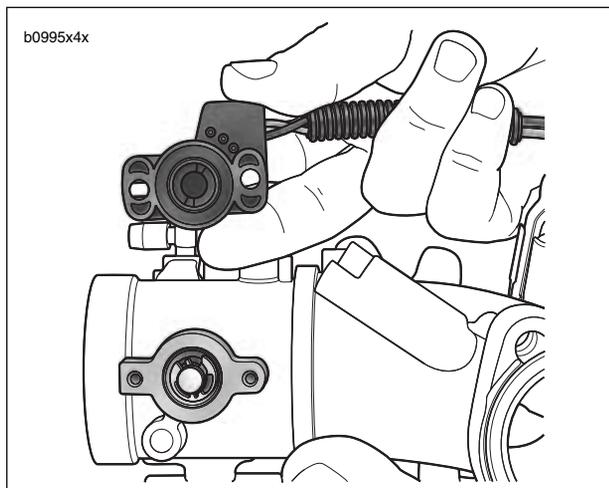

Figure 4-48. Throttle Position Sensor
3. See Figure 4-48. Remove two screws and washers to detach TP sensor.
1. See Figure 4-48. Apply LOCTITE THREADLOCKER 222 (purple) to threads of fasteners.